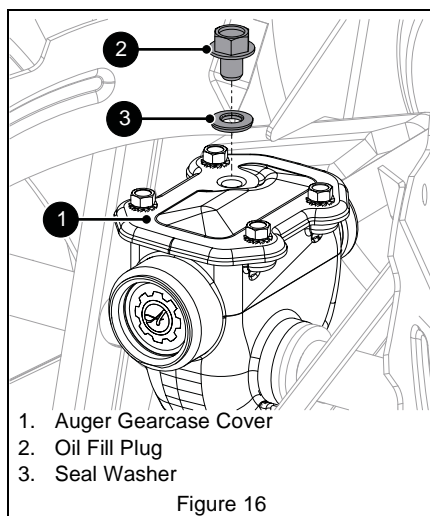

Figure 16
2. Remove oil fill plug and seal washer. See Figure 16.